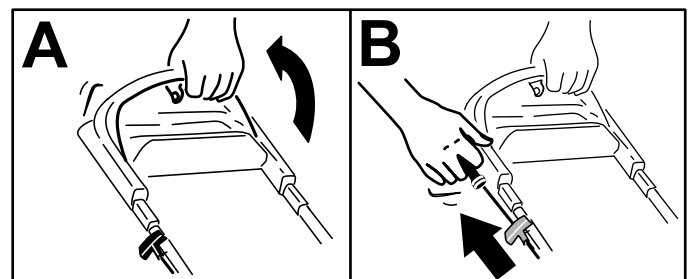

Figure 13
1. Hold the blade-control bar against the handle (A of Figure 13).
2. Pull the recoil-start handle lightly until you feel resistance, then pull it sharply, and allow it to return to the rope guide on the handle slowly (B of Figure 13).